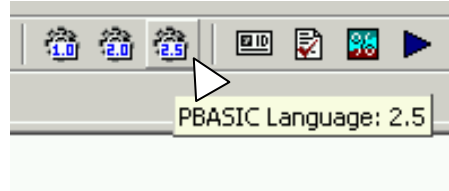

Figure 1-36
- ✓ Next, click on the gear icon labeled “2.5” shown highlighted in Figure 1-36. Its flyover help description is “PBASIC Language: 2.5”.